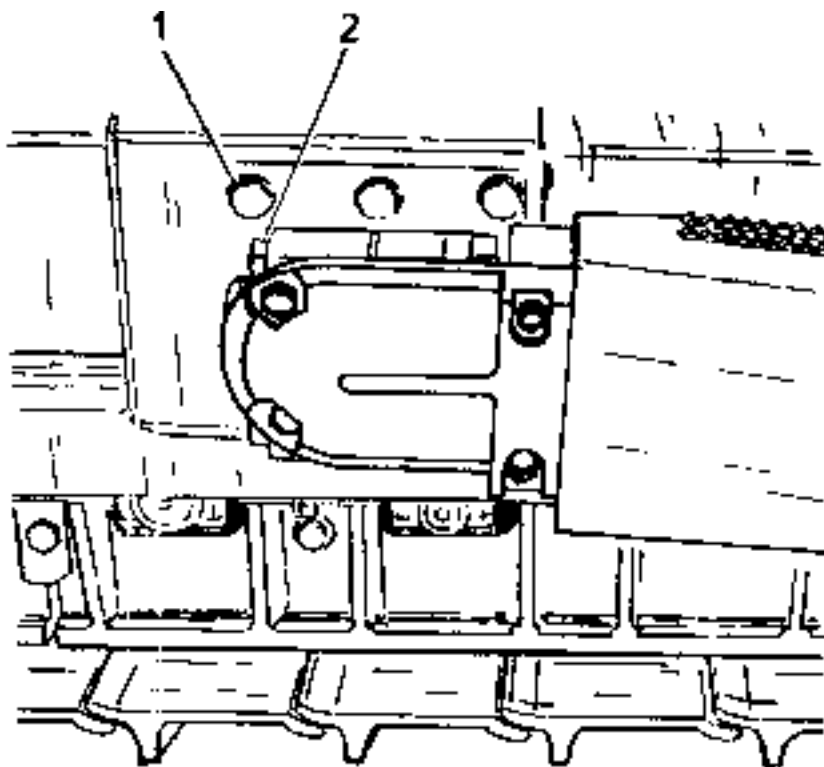

Fig. 5.40. Tightening Trunnion and Pusharm Bearing Cap Bolts
5.15.5.1. TRUNNION AND CAP MOUNTING BOLTS (Fig. 5.40)